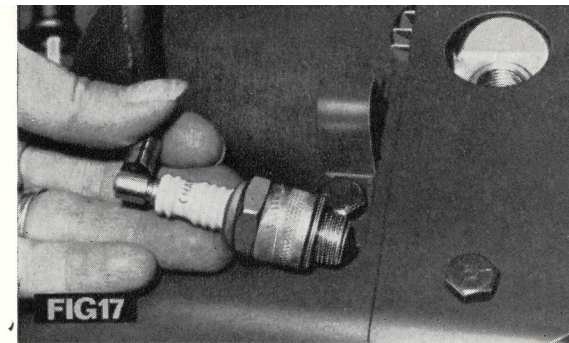

FIG17
Remedy: remove the sparking plug (fig. 17) and rotate the engine slowly by the recoil starter. Replace the plug and start engine.
**To Test Plug:** With high-tension lead attached, lay plug on engine cowl as shown in (fig. 17) and turn engine over by means of the recoil starter. If the plug fails to spark, clean the plug (fig. 18A). Should the plug be heavily coated with carbon deposits it should be cleaned, preferably by sand blasting at a local garage. Check the plug gap (fig. 18B) and refit the plug. If the engine still fails to start, replace plug (Champion J.8).